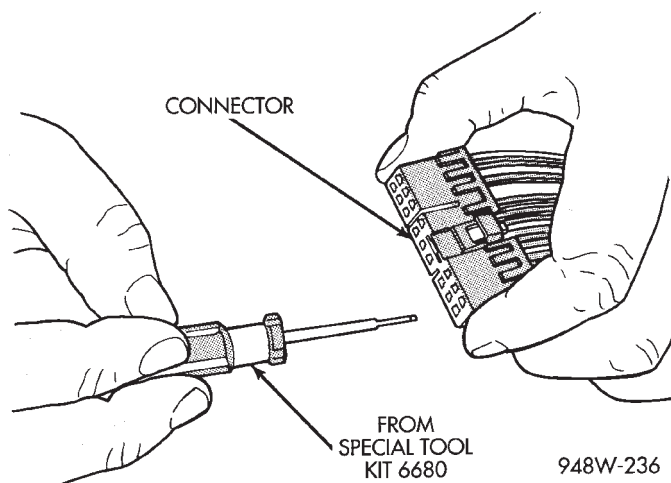
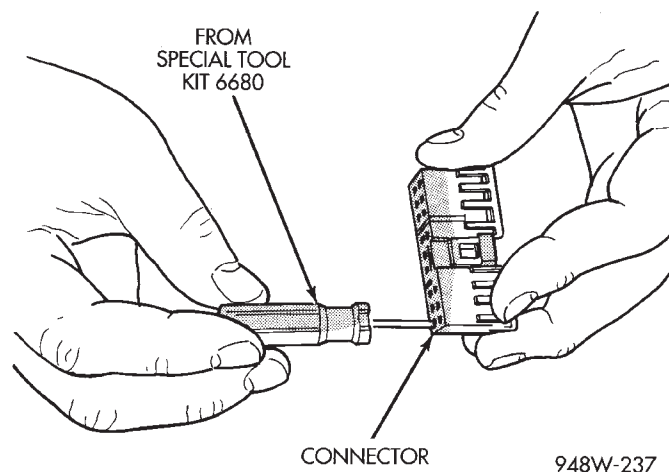

Fig. 22 Terminal Removal
Fig. 23 Terminal Removal Using Special Tool
(4) Position the connector locking finger away from the terminal using the proper pick from special tool kit 6680. Pull on the wire to remove the terminal from the connector (Fig. 22) (Fig. 23).